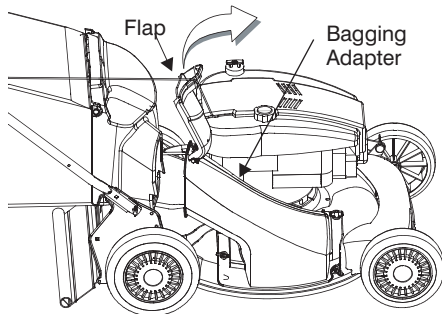

Figure 12
3. Lift flap and slide bag onto adapter. See Figure 12.